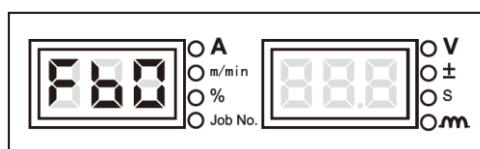

Figure 3-40 Screen for FB0 display
1. Enter the internal menu, adjust the knob on the panel of welding power source to **FB0**. The digital tubes will display as shown in Figure 3-40.